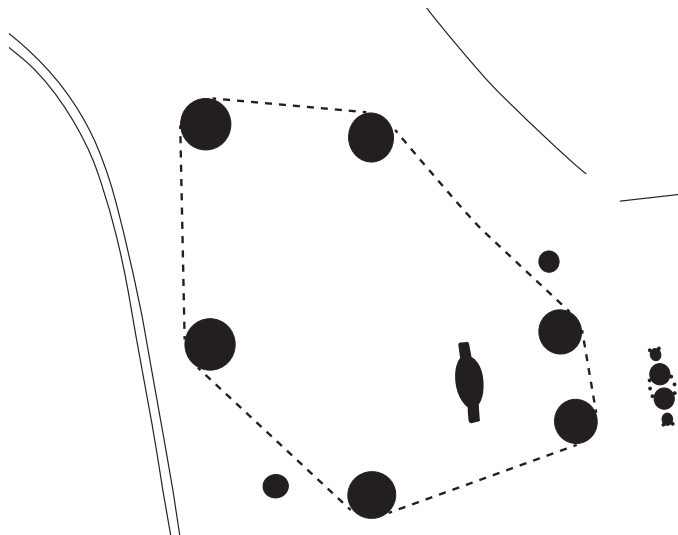

Figure 5
1. Use a flexible straight edge and felt marker or painter's masking tape to mark the main hole. Go from tangent to tangent (Fig. 5).